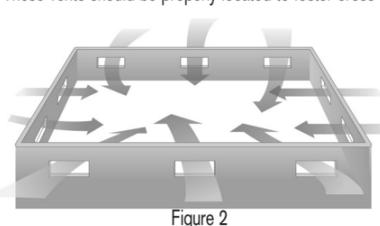

Figure 2
- Crawl space must be a minimum of 24" (600 mm) from the ground to underside of joists. A ground cover of 6-8 mil black polyethylene film is essential as a vapor barrier with joints lapped six inches and taped. The crawl space should have perimeter venting equal to a minimum of 1.5% of the crawl space square footage. These vents should be properly located to foster cross ventilation (see figure 2).